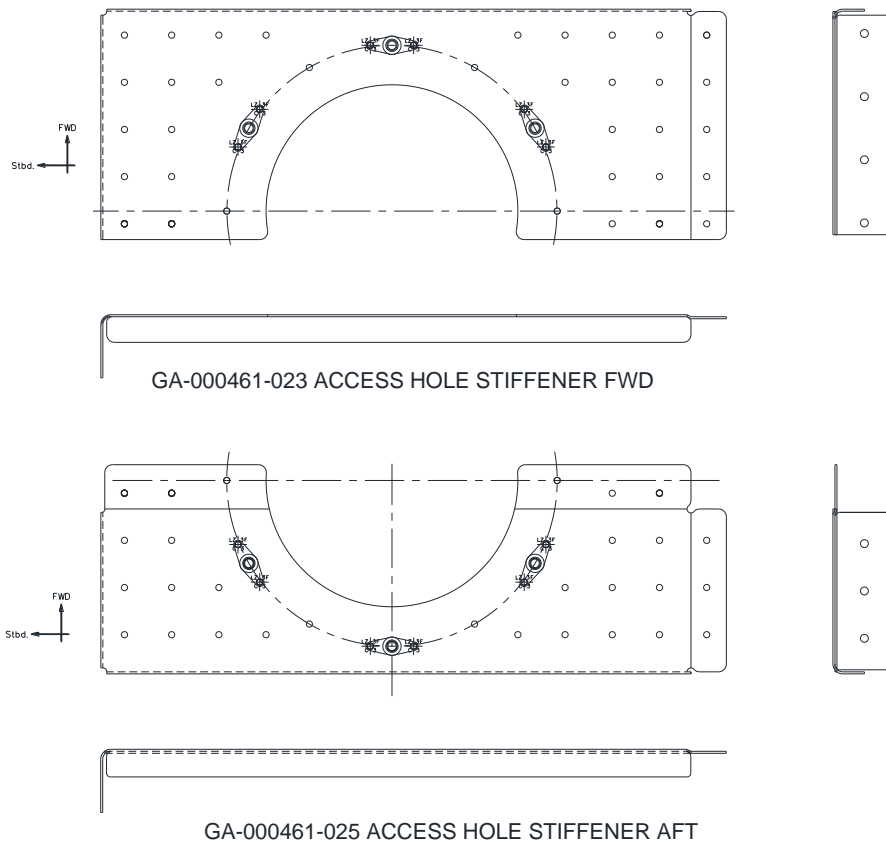

Figure 2: Installation of anchor nuts onto access hole stiffeners
1.2. Install three MS21048L08 anchor nuts to each of the two stiffeners (GA-000461-023 & GA-000461-025) using 12 NAS1097AD3-3 rivets as shown in Figure 2 below.